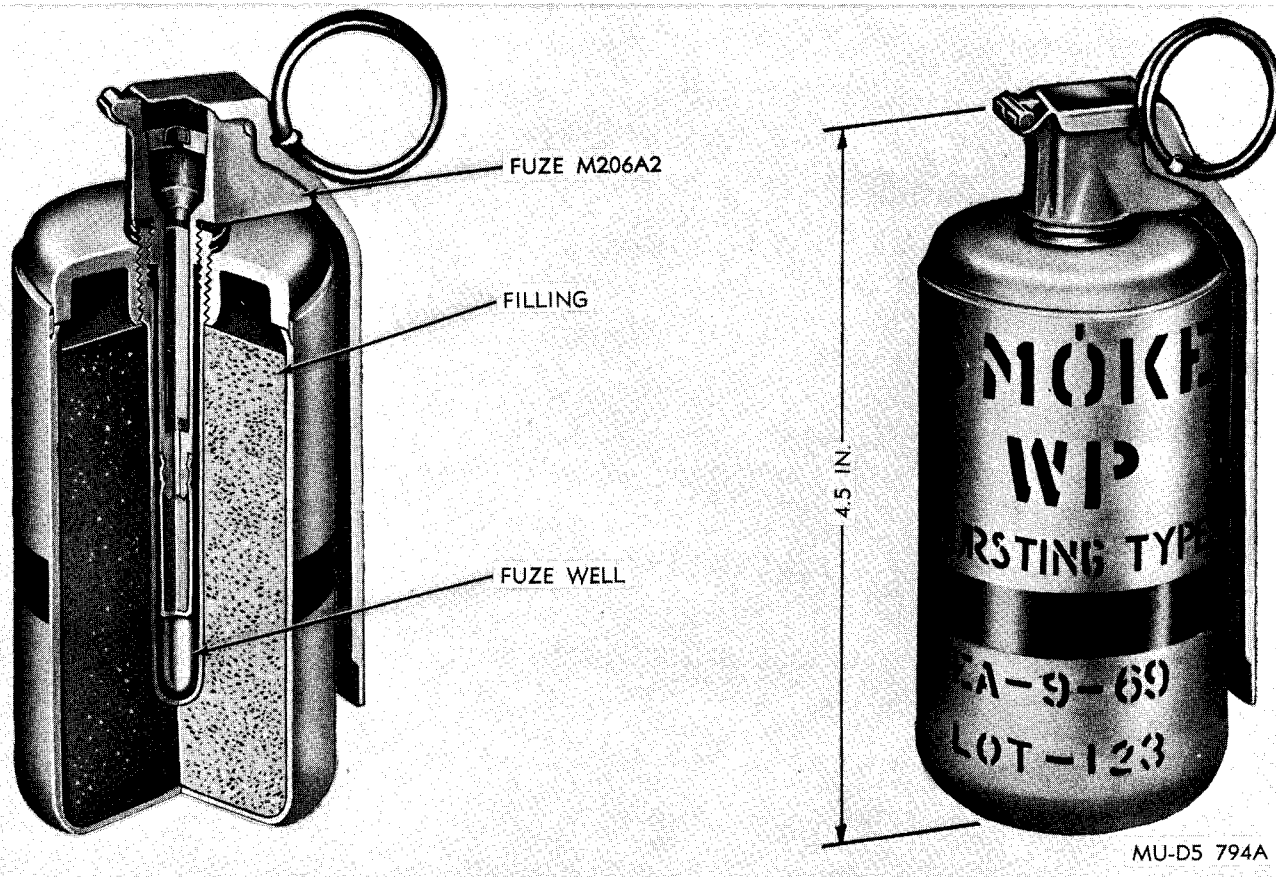

Figure 2-19. WP smoke hand grenade M15.
a. *General.* WP Smoke Hand Grenade M15 (fig. 2-19) is a bursting type grenade used for signaling, screening and incendiary purposes. The screening effect of the smoke is limited because WP burns with such intense heat, the smoke tends to rise rapidly. Pieces of WP will burn for about 60 seconds, igniting any flammable substance contacted. Since WP burns the flesh, it is effective against personnel. The effective casualty radius is 15 meters (49.2 feet).